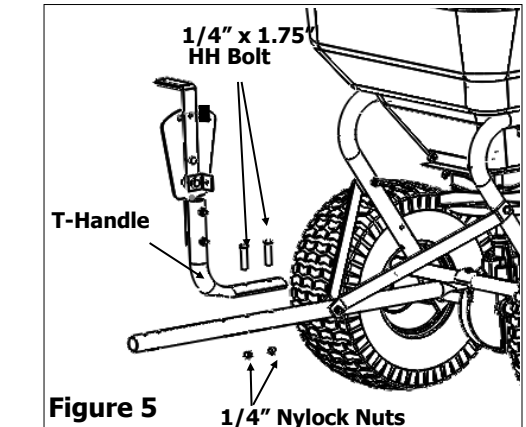

Figure 5
5. Attach the T-Handle to the top of the Tow Bar, using two 1/4" x 1.75" Hex Head Bolts and 1/4" Nylock Nuts. See Figure 5.